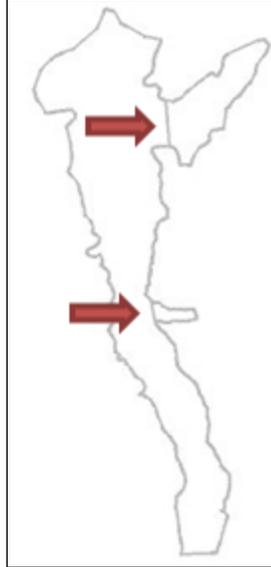

Figure 1 Branch segments as indicated by arrows.
2. Use Figure 1 as a guide to create two feature arcs (branches) where indicated, by clicking on one bank to begin the arc and then clicking on the other edge of the bank to complete the arc.
It is possible to create a curved boundary. Although this is not common practice, it can be done by simply creating more points along the arc. These steps can be followed to define as many branches as desired, but the two shown in Figure 1 are sufficient for this tutorial.